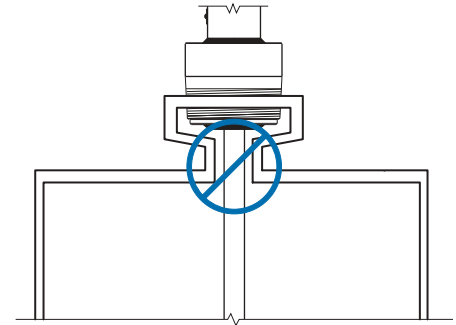

Figure 5
3. Pipe reducers that create restriction should not be used. See Figure 5.